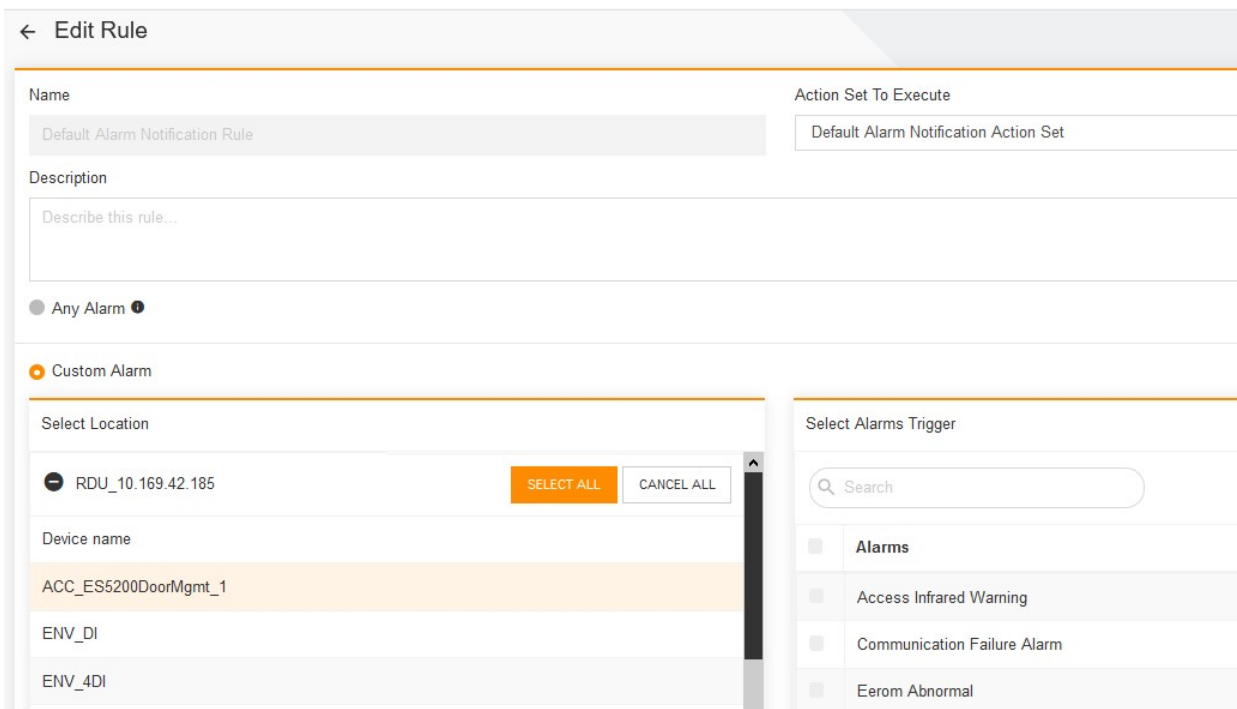

Figure 16-27 Editing an automation rule
1. On the **Automation Rules** page, click  in the row of the automation rule to be edited. In the pop-up shortcut menu, select  **EDIT** to switch to the **Edit Rule** page, as shown in Figure 16-27.